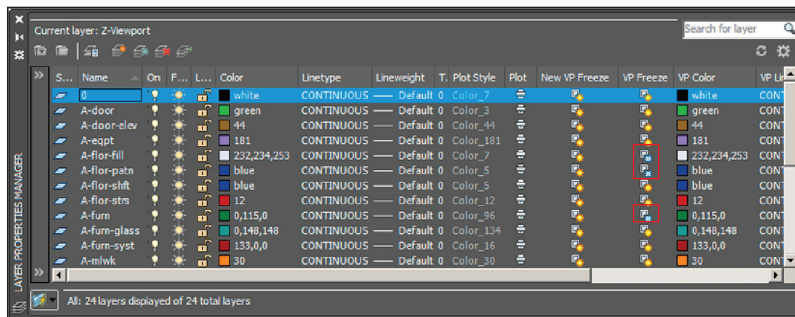

FIGURE 13.21 Freezing selected layers in the current viewport only
3. Expand the palette to the right by dragging its edge. Observe a set of properties in columns preceded with the letters *VP* (viewport). Click the icons in the VP Freeze column for layers *A-furn*, *A-flor-fill*, and *A-flor-patn* to freeze them in the current viewport (see Figure 13.21).